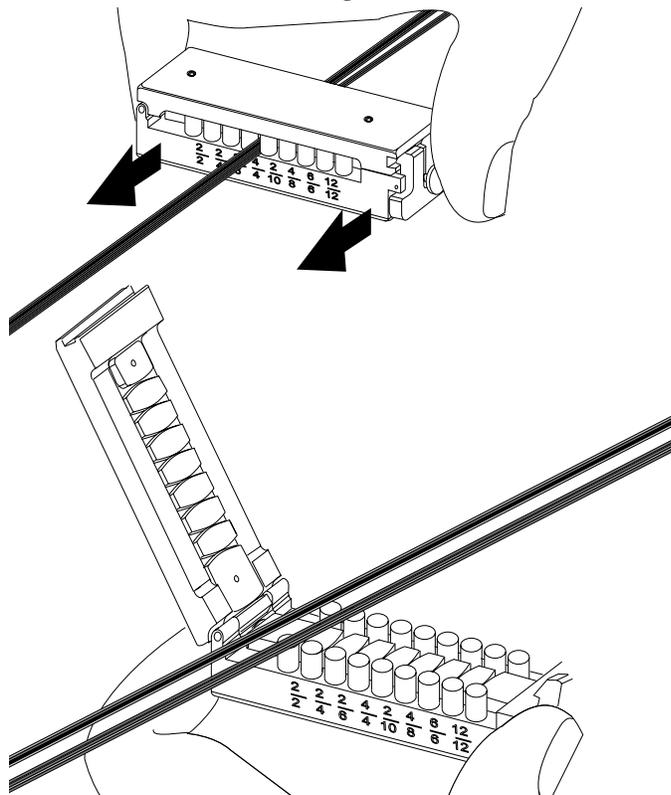

Figure 44
8.4 If appropriate for your installation, divide the ribbon(s) using the RST-000 tool and the instructions in Section 6 of SRP-004-098 (Figure 44).